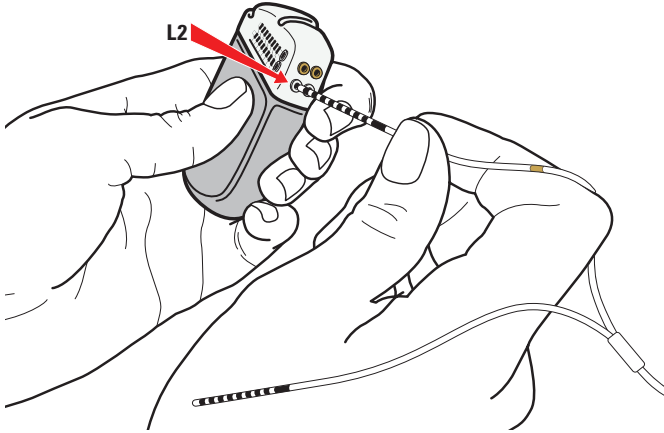

Figure 47. Connection to IPG Port L2
1. Connect the left hemisphere Lead Extension tail with the gold marker band to Port L2 (Figure 47).